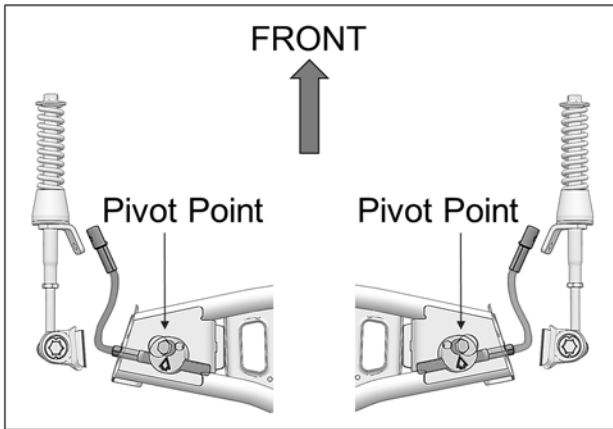

Fig. 19
13. Make sure aluminum disk pivot point is installed in front of steering limiter cable. See Fig. 19